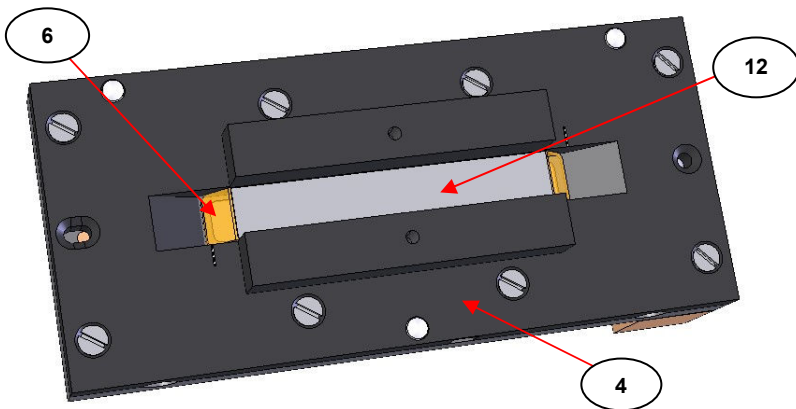

Fig 8. ATR Crystal and Lead Pad in the Gateway™ ATR Electrically Heated Trough Top Plate
- 2) Place the lead pad (12) carefully and centrally on the underside face of the crystal (6), making sure that it does not obscure the input or output angled faces of the crystal. (See Fig 8.)